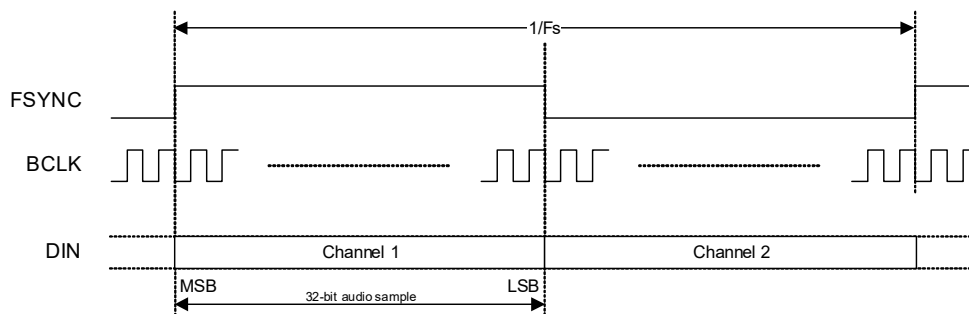

Figure 4-14. Left-Justified Data Format
- If Left-Justified data format is selected, the ASP supports audio channels 1–2 as shown in Fig. 4-14. The minimum BCLK rate is $64 \times F_s$ (where F_s is the sample rate). In ASP Primary Mode, the minimum BCLK rate of $64 \times F_s$ is not supported for sample rates of 16 kHz or 32 kHz. A higher BCLK frequency can be used, resulting in unused BCLK cycles between the LSB of one sample and the MSB of the next.